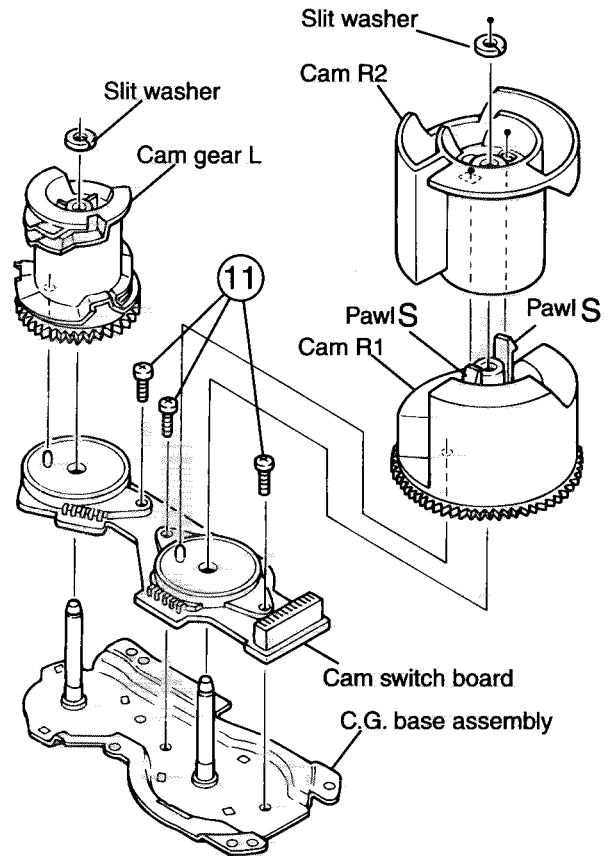

Fig.23
■Removing the cams R1/R2 assembly and cam gear L(See Fig.23)
■Removing the C.G. base assembly (See Fig.23 and 24)